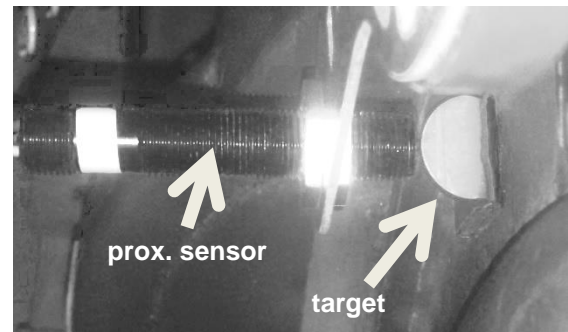

Figure 8: Top view picture of the proximity sensor and target
4. Ascertain the correct location on the rotor where the target is to be fitted and prepare the surface by cleaning using the alcohol pad provided. The target should be positioned so that the shorter rounded face of the target extends to line up with the proximity sensor as shown in **Figure 8**.